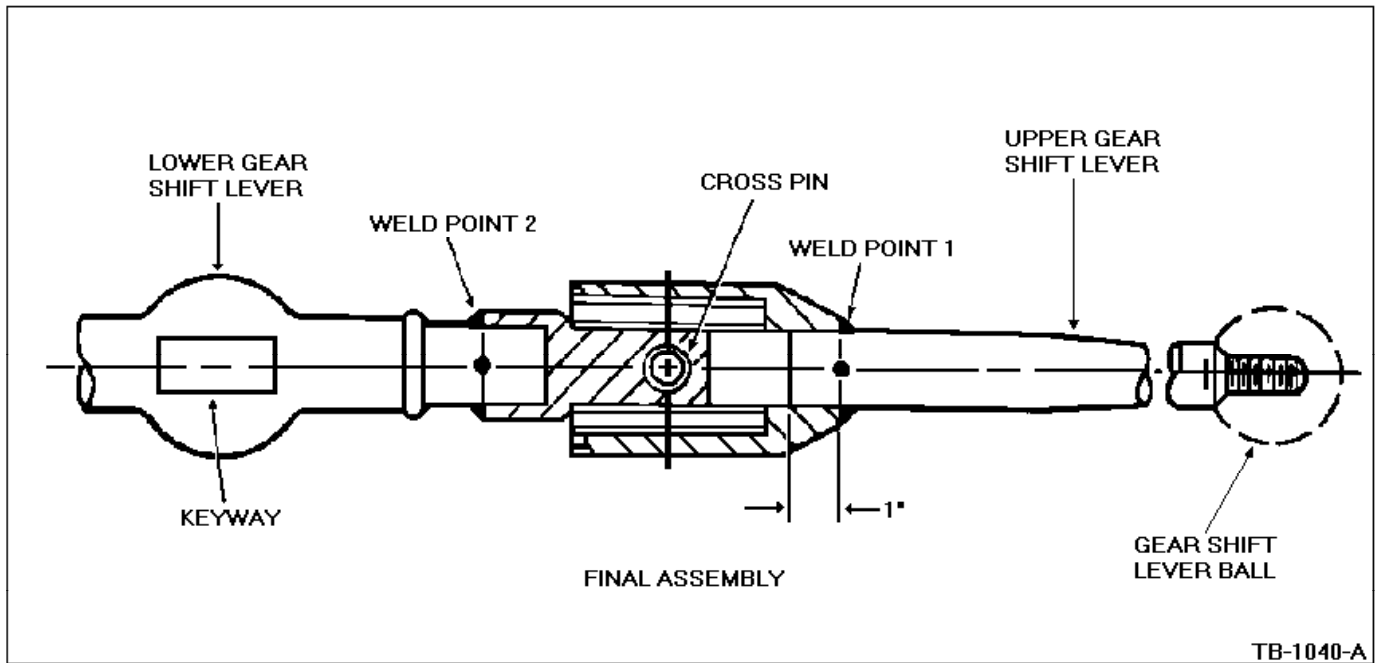

Figure 4 - Article 89-5-18
6. Apply a 1/4 inch bevel weld (weld point 2) as shown in Figure 4. Use Lincoln rod "Jetweld I E-7024" or equivalent.
7. Position the upper gear shift lever into the adaptor one (1) inch and line up the scribed lines made in Steps 2 and 4.
8. Apply a 1/4 inch bevel weld (weld point 1) as shown in Figure 4.